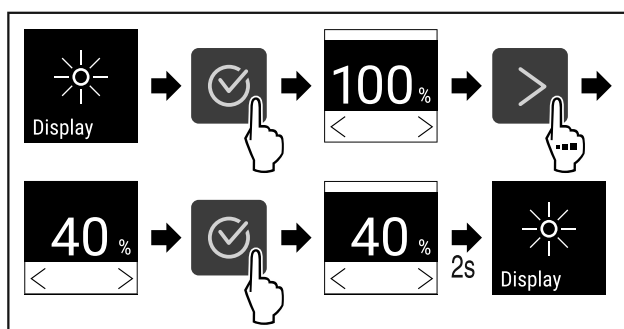

Fig. 77
- ▶ Complete the steps (see Fig. 77).